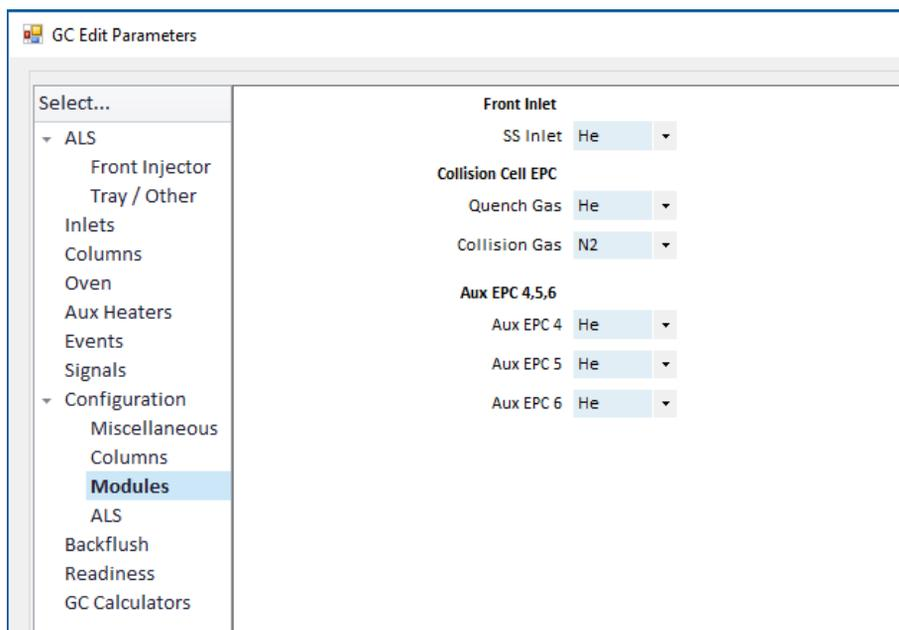

Figure 30. Configure CC gas
- 3 Select **Configuration > Modules** to display the screen. (See **Figure 30**.)